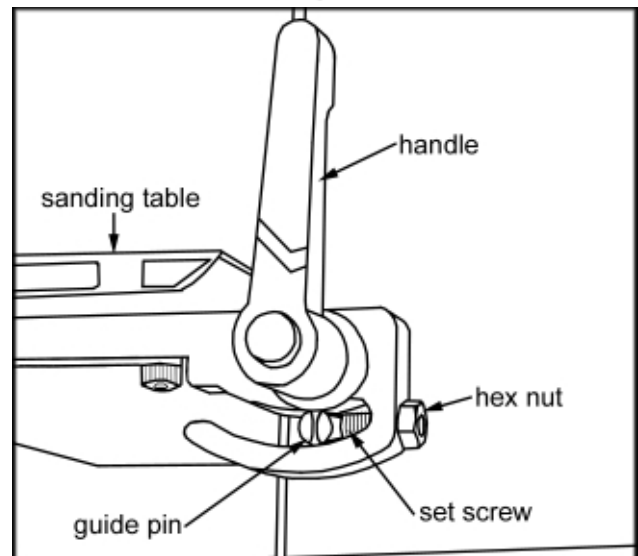

Fig. 6
4. Always maintain a gap of approximately 1/16" between the table edge and belt. Once the table is square and parallel to the belt adjust the 90° stop. Loosen the hex nut and tighten the set screw until it contacts the guide pin, (Figure 6). Tighten the hex nut. Repeat for the other side.